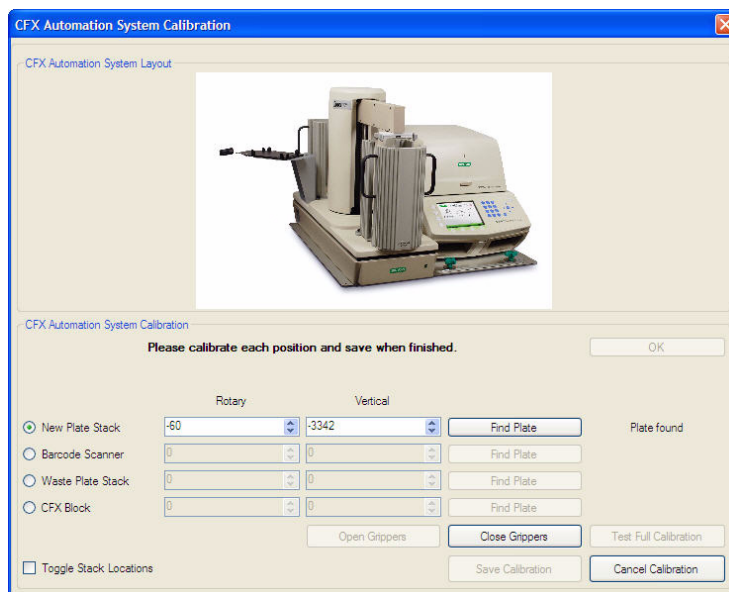

Figure 21. Calibrating new plate position.
- Click the **Find Plate** button. The CFX automation system arm moves to the input stack position (rear stack by default) and the rotary offset is displayed. The arm then moves down until the plate sensor switch is activated by the lip of the PCR plate, and the vertical offset text box is recorded. A **Plate Found** message will display to the right of the Find Plate button (Figure 21).